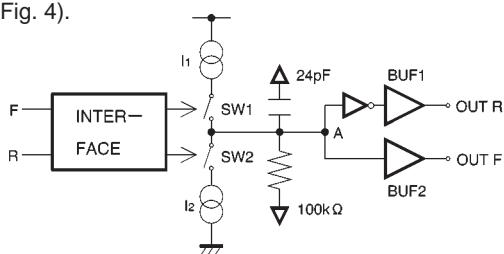
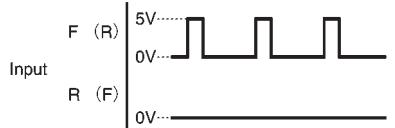

Fig. 2
Fig. 3
(1) Fig. 3 shows the inputs from the digital servo IC for CH1-CH3 drivers (all drivers except the spindle). SW1 is on when the forward input signal (HIGH level, over 2.4V) is present. SW2 is on when the reverse input signal is present (Fig. 2).
This can be increased by inserting a capacitor between point A (pins 3, 11 and 18) and V_{REF} . The constant current (I_{const}) given in the electrical characteristics refers to I_1 and I_2 in Fig. 2.